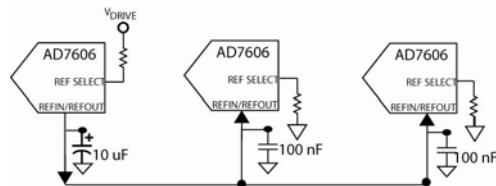

Figure 39. Internal Reference driving multiple AD7606 REFIN pins.
**Internal reference mode:** One AD7606/AD7606-6/AD7606-4 device, configured to operate in the internal reference mode, could be used to drive the remaining AD7606/AD7606-6/AD7606-4 devices which are configured to operate in external reference mode, see Figure 39. The REFIN/REFOUT pin of the AD7606/AD7606-6/AD7606-4, configured in internal reference mode, should be decoupled using a 10  $\mu$ F ceramic decoupling capacitor. The other AD7606/AD7606-6/AD7606-4 devices, configured in external reference mode, should use a 100 nF decoupling capacitor on their REFIN/REFOUT pins.